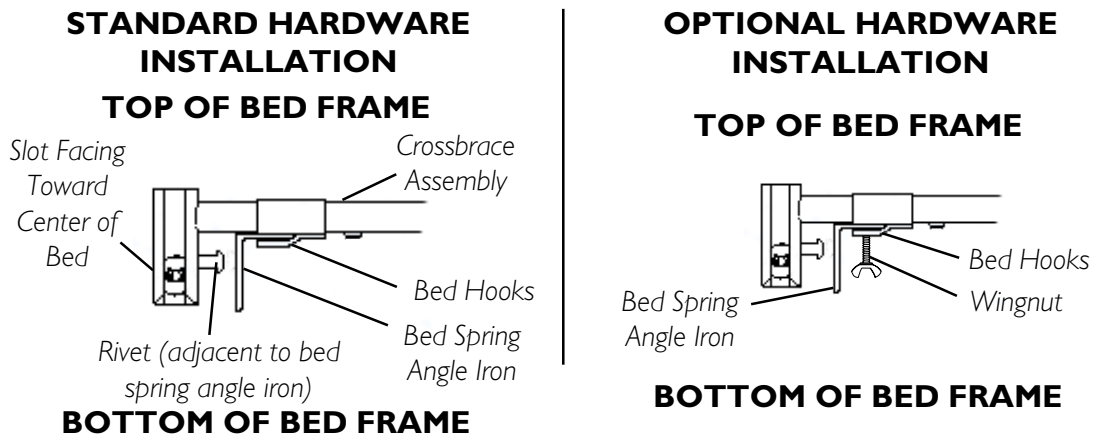

FIGURE 2 - INSTALLING THE CROSSBRACES
4. Position the bed hooks so they are on the bottom side of the crossbrace as shown in FIGURE 2.
5. Perform one (1) of the following:
- a. Attach one (1) bed hook onto the bed spring angle iron and push in on the spring-loaded bed rail until you are able to attach the opposite end to the bedspring angle iron as shown in FIGURE 2.